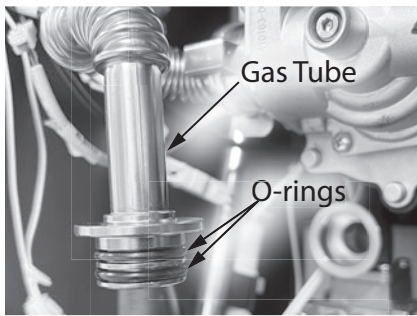

Figure 83 - O-ring replacement (two o-rings)
- 14 Install the two new O-rings on the gas tube as shown in Figure 83.